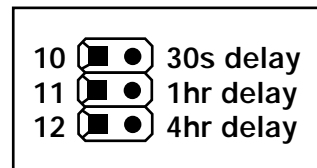

FIGURE 4.4-Delay time jumpers
- 4) Move the jumpers to the desired time pattern: 30 seconds, one hour or four hours. Refer to Figure 4.4.